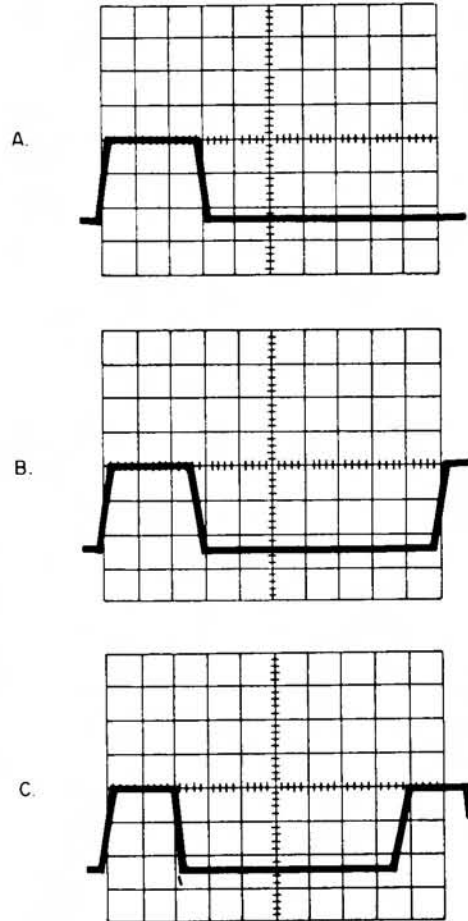

Figure 14. Clock Frequency Variation
1. Set the scope as indicated in Figure 14. Display the output of the  $\pm 0$  hub, located on the CE console with the machine in static condition. The output should appear as shown in Figure 14A.
- a. Rather than replace the basic block oscillator, observe the +U RO Time 000-030 pulse at 01A5 B14N, with the scope set as indicated in Figure 14.